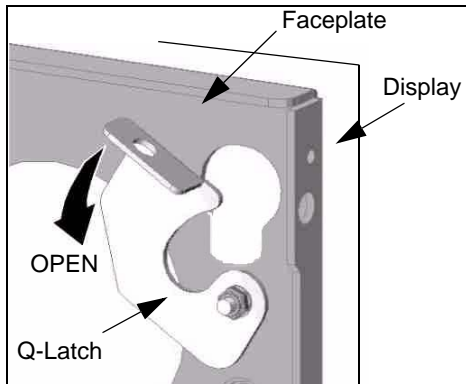

Figure 8: Open Q-Latch
1. Make sure Q- Latch is in the "open" position and will not obstruct display installation (see Figure 8:).